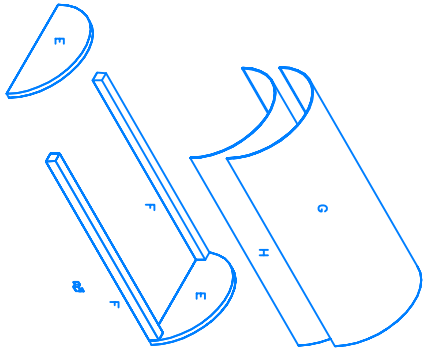

FIGURE 5
- Fit pieces F to pieces E and ensure that the curve of pieces E fit the level on pieces F. Sand pieces F if necessary. Glue ends of pieces F and attach to pieces E by nailing through pieces E into pieces F with 1 1/2" finishing nails. See (Fig 5). Glue curved edges of both pieces E and F shape piece H to fit pieces E. Starting at the apex of each piece E nail piece H to pieces E with 1/2" carpet nails. Glue surface of piece H and form piece G nailing piece H through piece G into pieces E with 1/2" carpet nails.